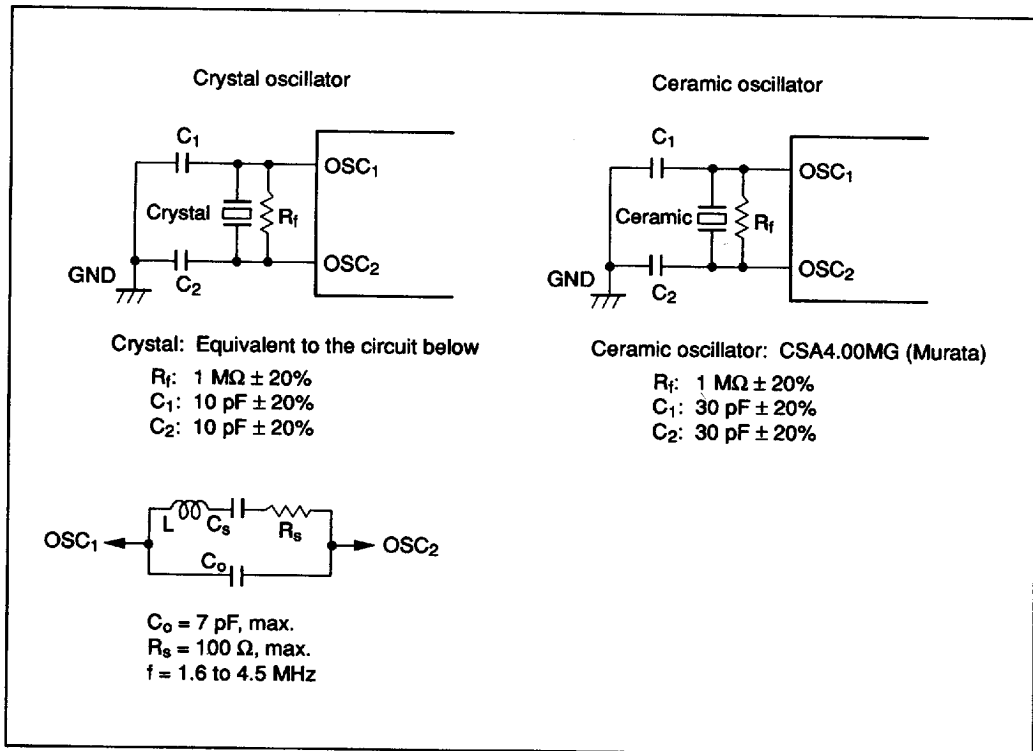

Figure 56 Oscillation Circuits (1)
- Notes: 1. The oscillation stabilization time is the period required for the oscillator to stabilize after V_{CC} reaches 3.0 V (3.5 V if $V_{CC} = 3.5$ to 6.0 V: HD404720/HD404728/HD404729; $V_{CC} = 3.5$ to 5.5 V: HD4074720/HD4074729) at power-on or after RESET input goes high after stop mode is cancelled (figure 56). At power-on and when stop mode is cancelled, RESET must remain high for at least t_{RC} to ensure the oscillation stabilization time. If using a crystal oscillator, contact the manufacturer to determine what oscillation stabilization time is required, since it depends on the circuit constants and stray capacitances.